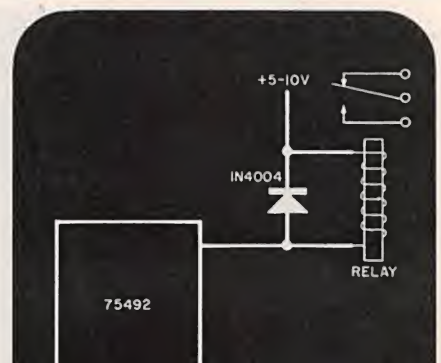
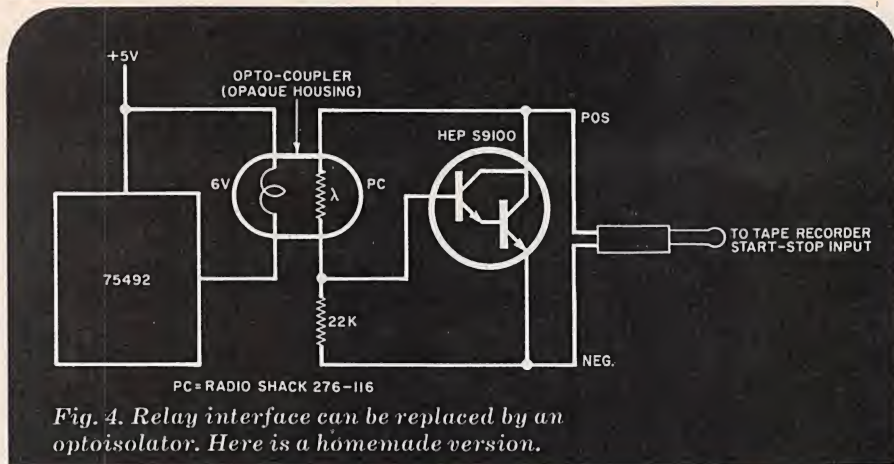

Fig. 3. Low-power relay interface requires protective diode.
Fig. 4. Relay interface can be replaced by an optoisolator. Here is a homemade version.
**DC Relay Interface.** A low-voltage relay whose coil draws less than 200 mA of current can be operated through the output of the IC, as shown in Fig.3. Make sure that the current demand of the relay's coil does not exceed 200 mA, and install a diode as shown to protect the IC from back-emf spikes.
**Tape-Recorder Interface.** Turning on and off a tape recorder under computer control can be very useful for color-slide presentations. Other attractive applications include loading programs from a cassette deck into a computer and storing of programs on tape. The tape deck you wish to control must be equipped with a start/stop control system accessed by way of a jack—usually located near the microphone jack. To turn the tape deck on and off one can connect contacts of a relay (Fig. 3) to a plug inserted in the on/off jack on the tape recorder. If you wish to eliminate the relay, an alternate circuit shown in Fig. 4 uses a Darlington transistor and an optoisolator consisting of a cadmium-sulfide (Cds) photocell and a low-voltage lamp in a light-tight housing. Because this circuit is polarized, it may be necessary to reverse the leads to make the circuit work.